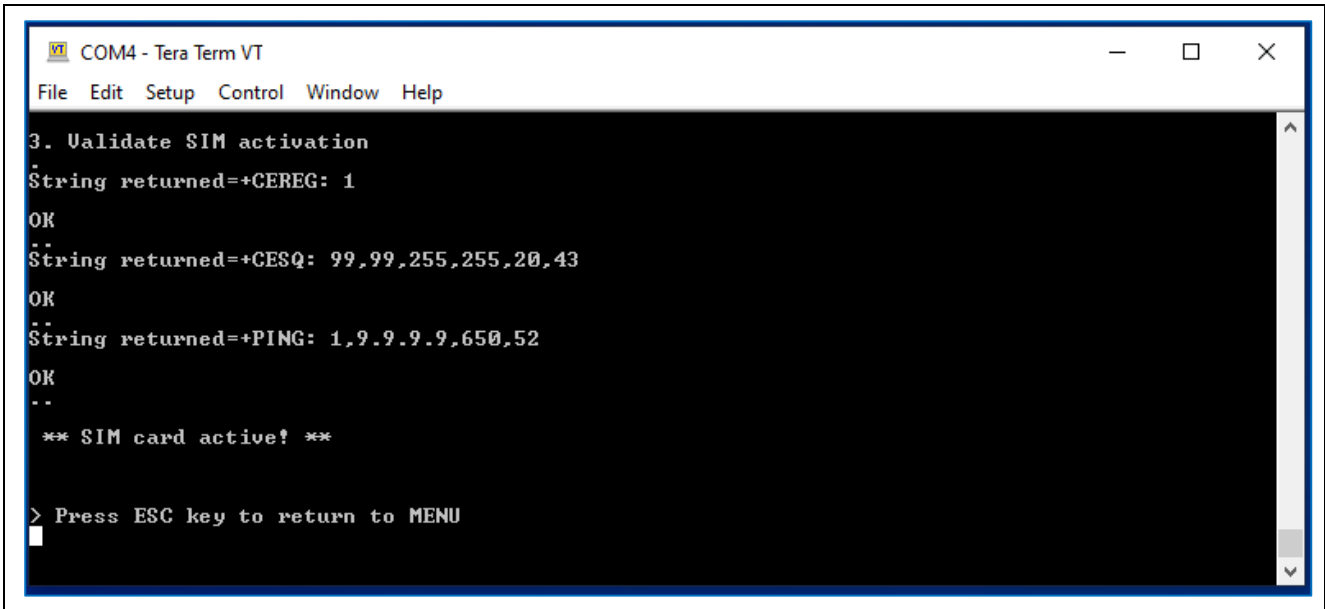

Figure 11. Validating SIM Activation – SIM Card Active
10. Insert the SIM card in the RYZ024A PMOD. Follow **Running the RYZ024A PMOD example project** section step 8 by using **Menu 3 Validate SIM activation** to verify that the SIM card is activated. The SIM card should be activated on the Truphone SIM Activation platform after 15 minutes and can be validated on the Tera Term terminal as shown in Figure 11. The time for the SIM card to be activated by Truphone can vary depending on their system demand. In most cases, if PING Response fails, wait a few more minutes and repeat **Menu 3 Validate SIM activation**.